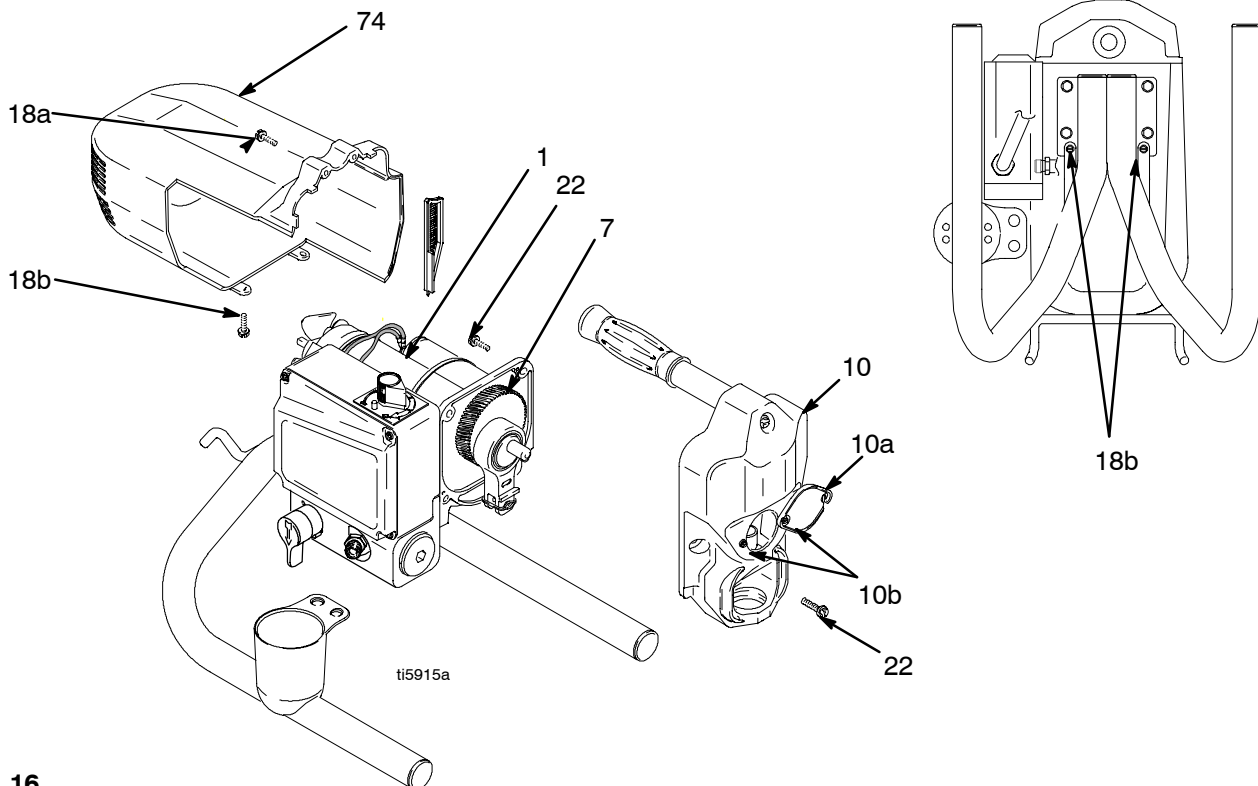

Fig. 16
- Remove pump (13); **Displacement Pump Replacement**, page 26.
- Fig. 16. Remove two screws (18a). Tip sprayer up. Remove two screws (18b) and remove shroud (74).
- Remove two front screws (22).
- Remove two back screws (22).
- Pull drive housing (10) off of motor (1).
- Push drive housing (10) onto motor (1).
- Install two front screws (22).
- Install two back screws (22).
- Fig. 16. Install shroud (74) with two screw (18a). Tip sprayer up. Install two screws (18b).
- Install pump (13); **Displacement Pump Replacement**, page 26.